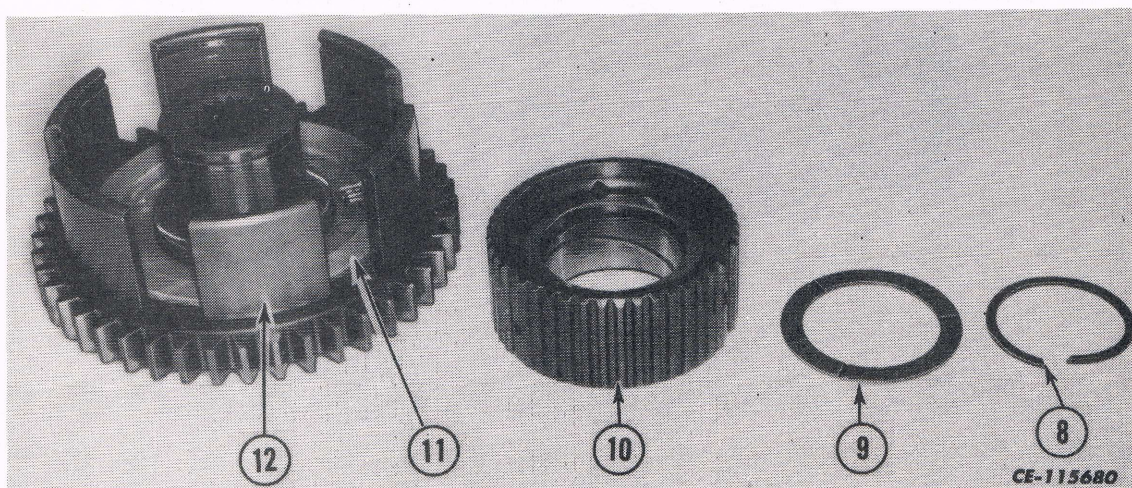

Fig. 6
3. Remove the smaller snap ring (8), thrust washer (9) and hub assembly (10). See Fig. 6.